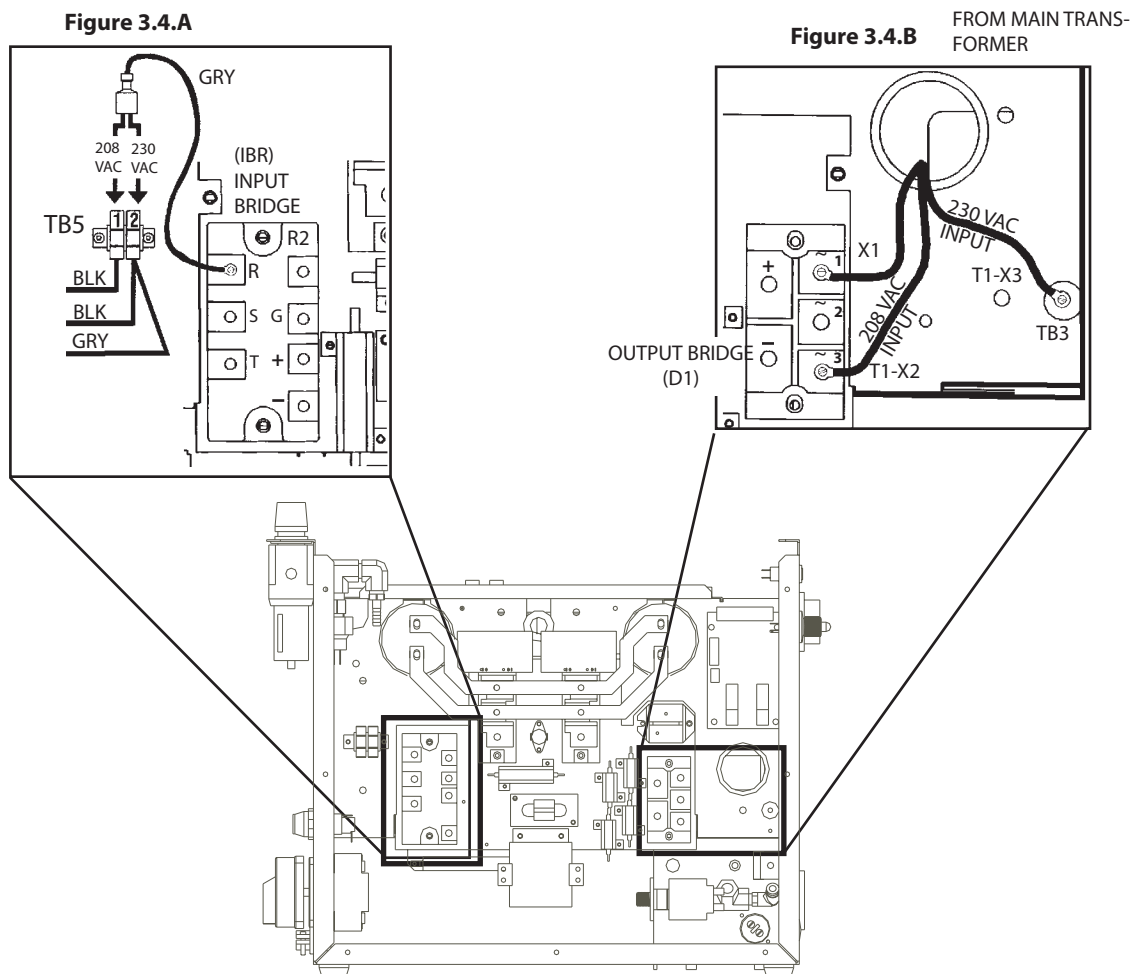

Figure 3-4. Original Factory Setup for 230 Vac Input on Power Source with 200/230 Vac Input Power Capability
NOTE: If using 200(208) V input power, the ESP-50 must be reconnected for 200 V use as directed in Section 3.7 and Figure 3-4.
2. Locate the Input Bridge (IBR) and TB5 terminal block (see Figure 3.4.A) on the left side towards the rear panel. Disconnect the gray lead from TB5-2 and then connect it to TB5-1.
3. Locate the output bridge (D1) on left side towards the front panel (see Figure 3.4.B). Disconnect and swap leads X2 and X3 from the main transformer. For 200(208) vac input, X2 is connected to TB3 and X3 is connected to terminal 3 of D1. Make sure the connections are firmly tightened.